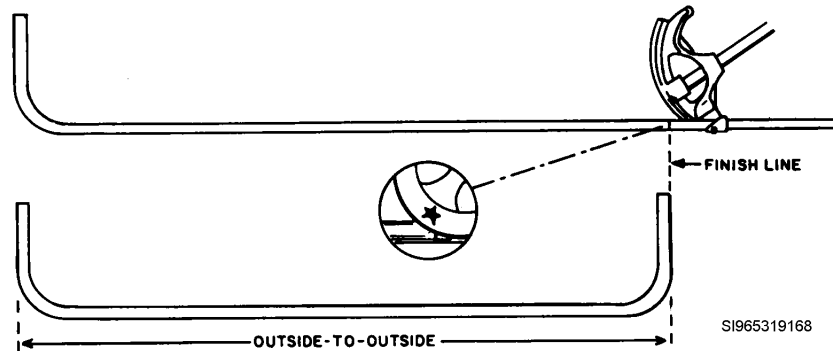

Figure 4. Using the star for back-to-back bend.
- The back-to-back bend is actually two adjacent 90° bends made in the same piece of conduit. You make the first 90° bend with a certain amount of stub, as described previously. To determine where to place the bender for the second bend, you must first have an outside-to-outside measurement. This measurement is the distance from the back of the first bend to where you want the back of the second bend. You must then transfer this measurement to the conduit and make a mark. There are two methods to make the second bend. The first is to subtract the take-up, use the arrow on the bender, and pull the bend in the same direction as you did the first bend. The second method, and probably the easiest, is to turn the bender around, line up the star on the bender with your outside-to-outside measurement, and pull the bend in the opposite direction as shown in figure 4.